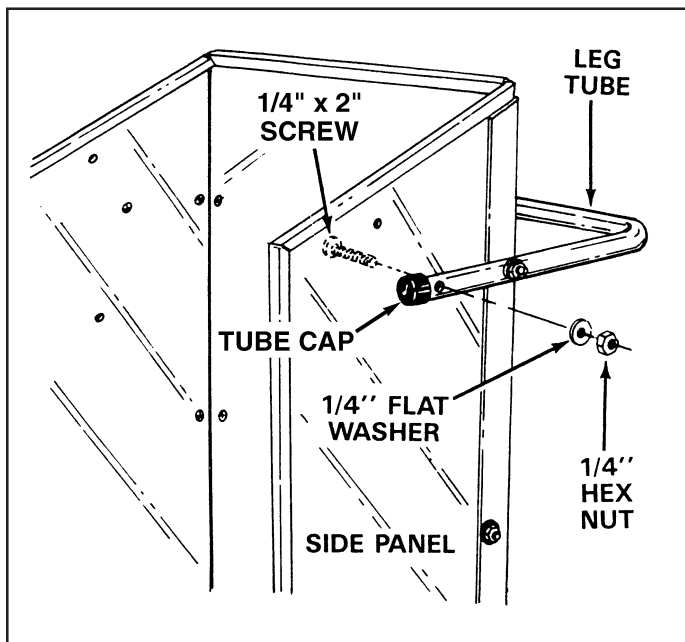

FIGURE 9
16. Stand cart up on its front end again. Place tube caps on leg tube and assemble the leg tube as shown in figure 9, using four 1/4" x 2" screws through side panels and leg tube. Secure with flat washers and hex nuts. See figure 9.